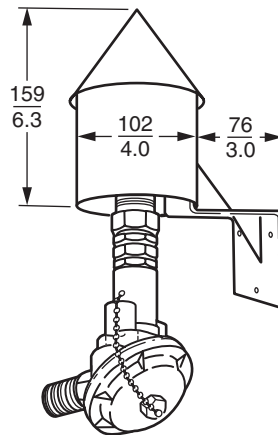

Figure 4. Weatherhood
3. If the element is placed outdoors, mount it in a weatherhood to protect it from precipitation, wind, and sunlight (see Figure 4).